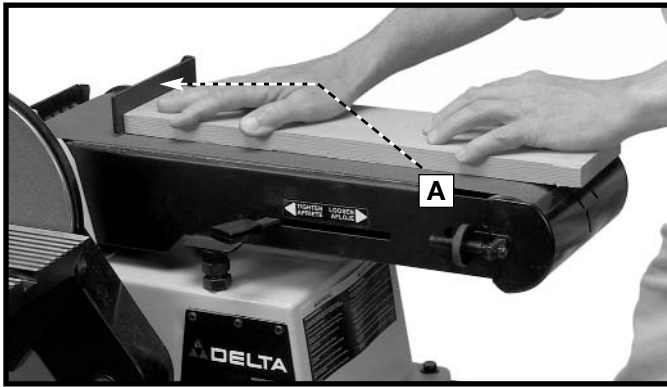
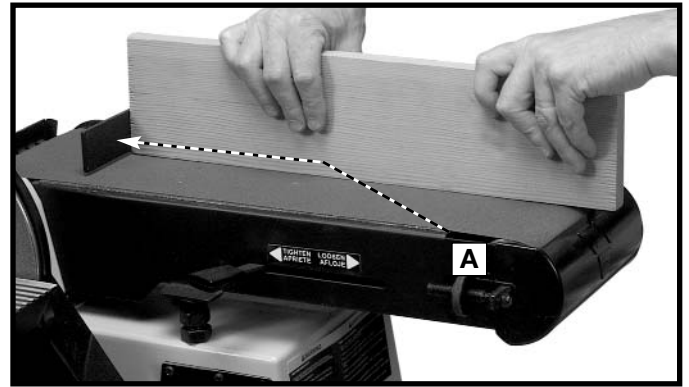

Fig. 44
Fig. 45
When surfacing (Fig. 44) or edge sanding (Fig. 45), place the sanding arm in the horizontal position and use the backstop (A) Fig. 44 and Fig. 45 to keep the workpiece in place. Hold the workpiece firmly and keep your fingers away from the sanding belt. Place the end of the workpiece against the backstop and move the workpiece evenly across the sanding belt. Apply only enough pressure to allow the sanding belt to remove material. Use extra caution when sanding very thin pieces.